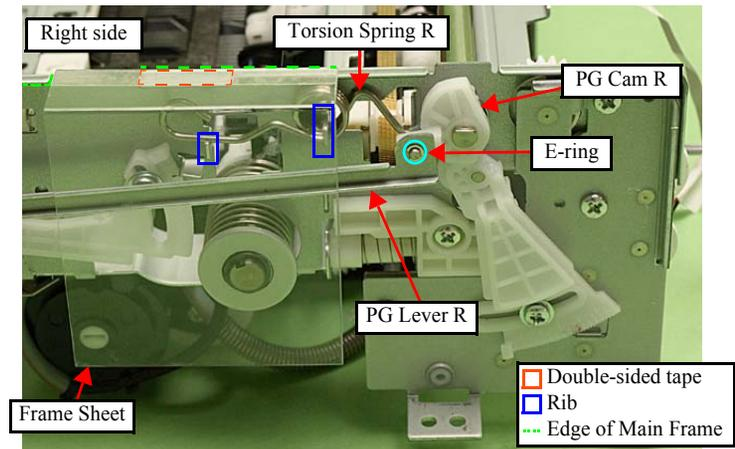
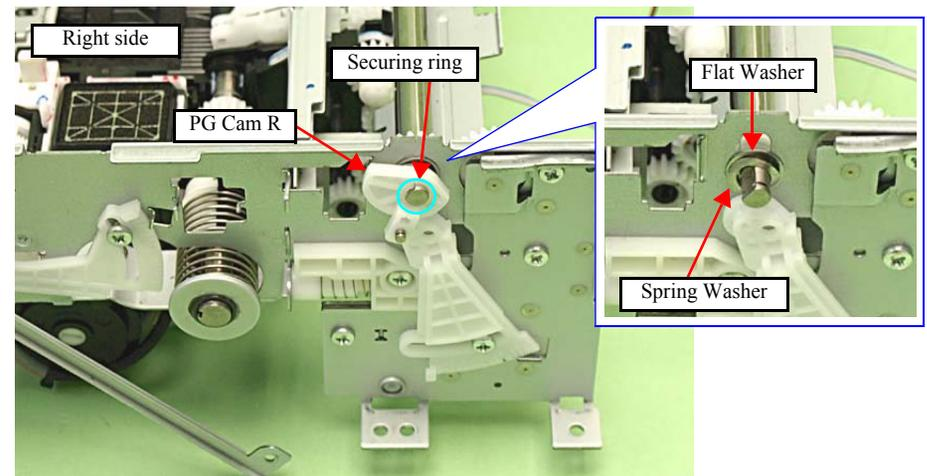

Figure 4-132. Removing the Carriage Unit (1)
Figure 4-133. Removing the Carriage Unit (2)
- Remove the E-ring and remove the PG Lever R. (See Fig. 4-132.)
- When installing the Flat Washer and the Spring Washer, install them in the order of the Flat Washer and the Spring Washer from the frame side. (See Fig. 4-133.)
- When installing the Torsion Spring R, hook the spring leg between PG Cam R and the Spring Washer, and attach the spring to the ribs (x2) of the Main Frame. (See Fig. 4-132, Fig. 4-133.)
- When installing the Frame Sheet, attach it with double-sided tape while aligning it with the edge of the Main Frame. (See Fig. 4-132.)